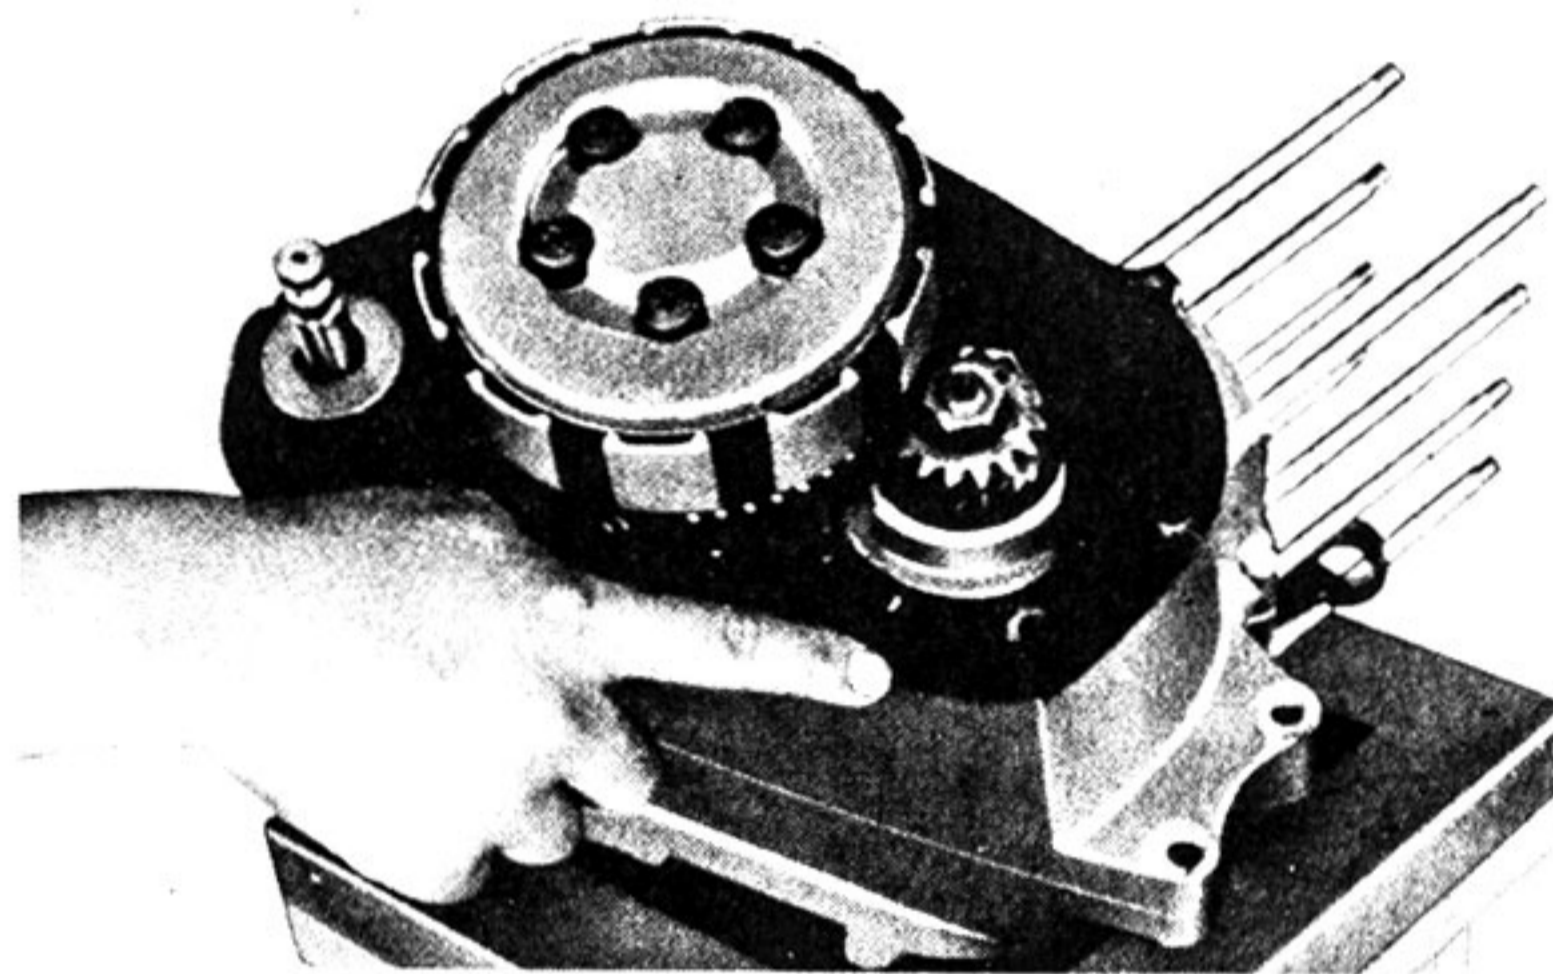

Fig. 4-7-4
c. Replace the crankcase cover gasket, if damaged. (Fig. 4-7-4)